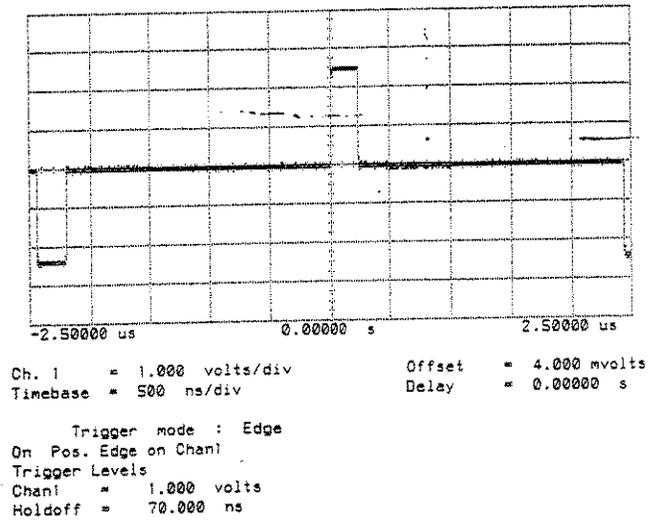

Figure 8-10 Tx DATA (10000 WORD AMI)
20. Check that the displayed waveform is as shown in Figure 8-10